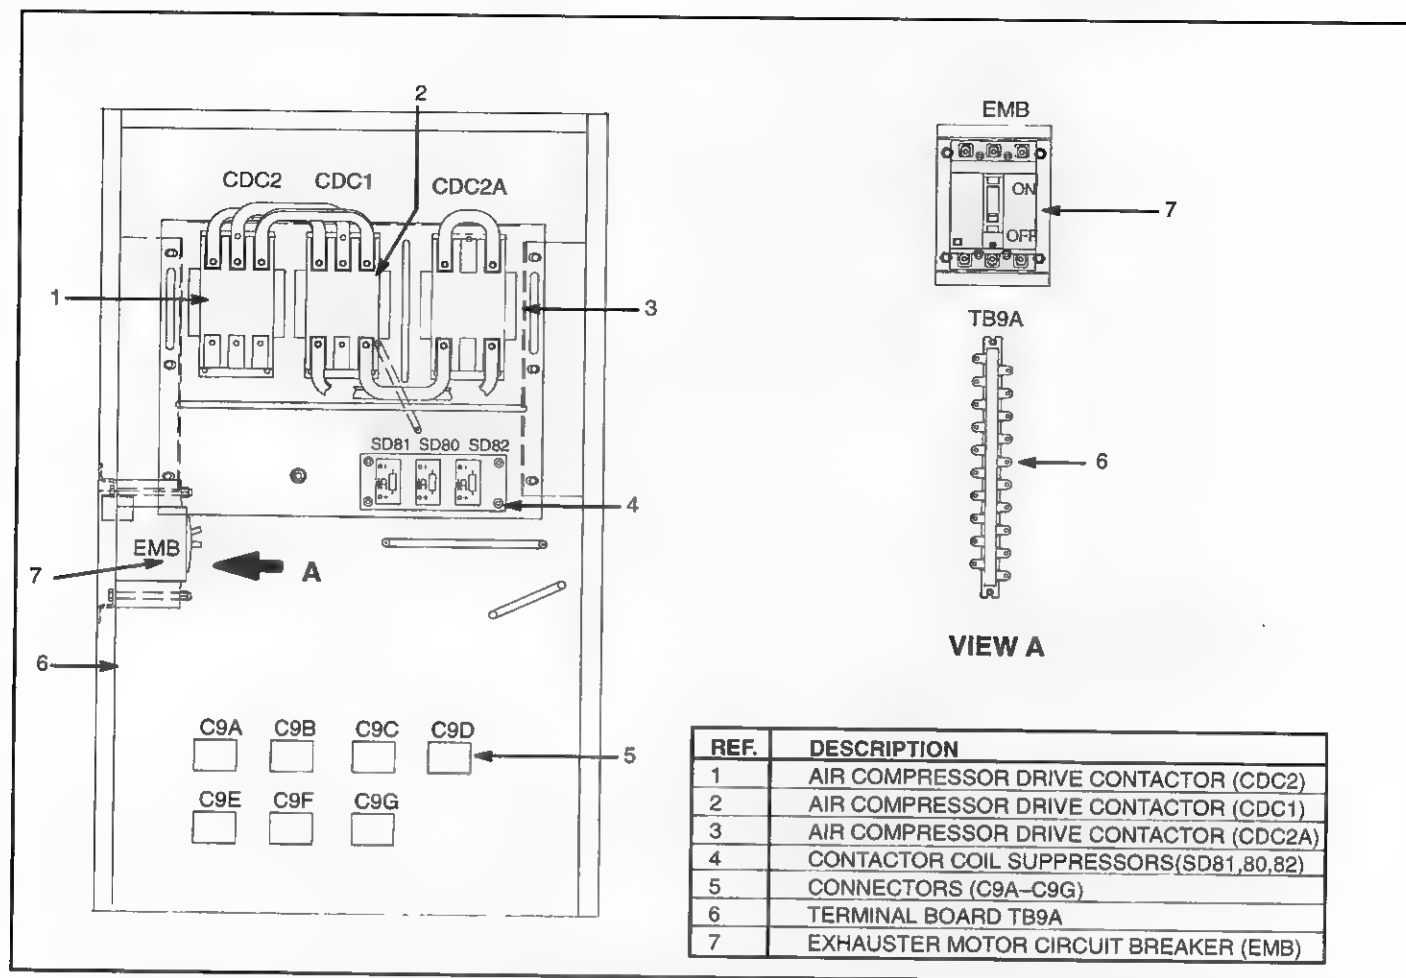

FIG. 24. CONTROL AREA 9 - LOCATED IN THE RADIATOR CAB ON THE RIGHT SIDE OF THE LOCOMOTIVE). E-42874.
Located in the radiator cab on the right (A) side of the locomotive (Fig. 24).